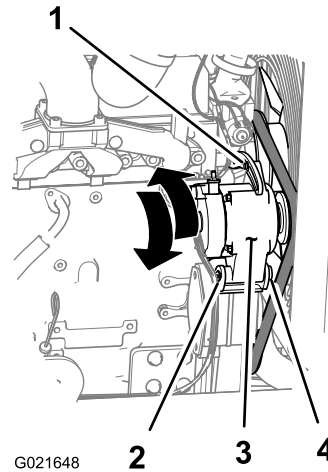

Figure 143
3. Loosen the nut and bolt at the pivot point for the alternator (Figure 143).
4. Loosen the adjustment bolt on the alternator (Figure 143).
5. Move the alternator away from the engine to increase the belt tension; move the alternator toward the engine to decrease the belt tension (Figure 143).
6. Tighten the alternator adjustment bolt (Figure 143).
8. If the belt tension is correct, tighten the nut and bolt at the pivot point for the alternator (Figure 143); otherwise repeat steps 4 through 7.